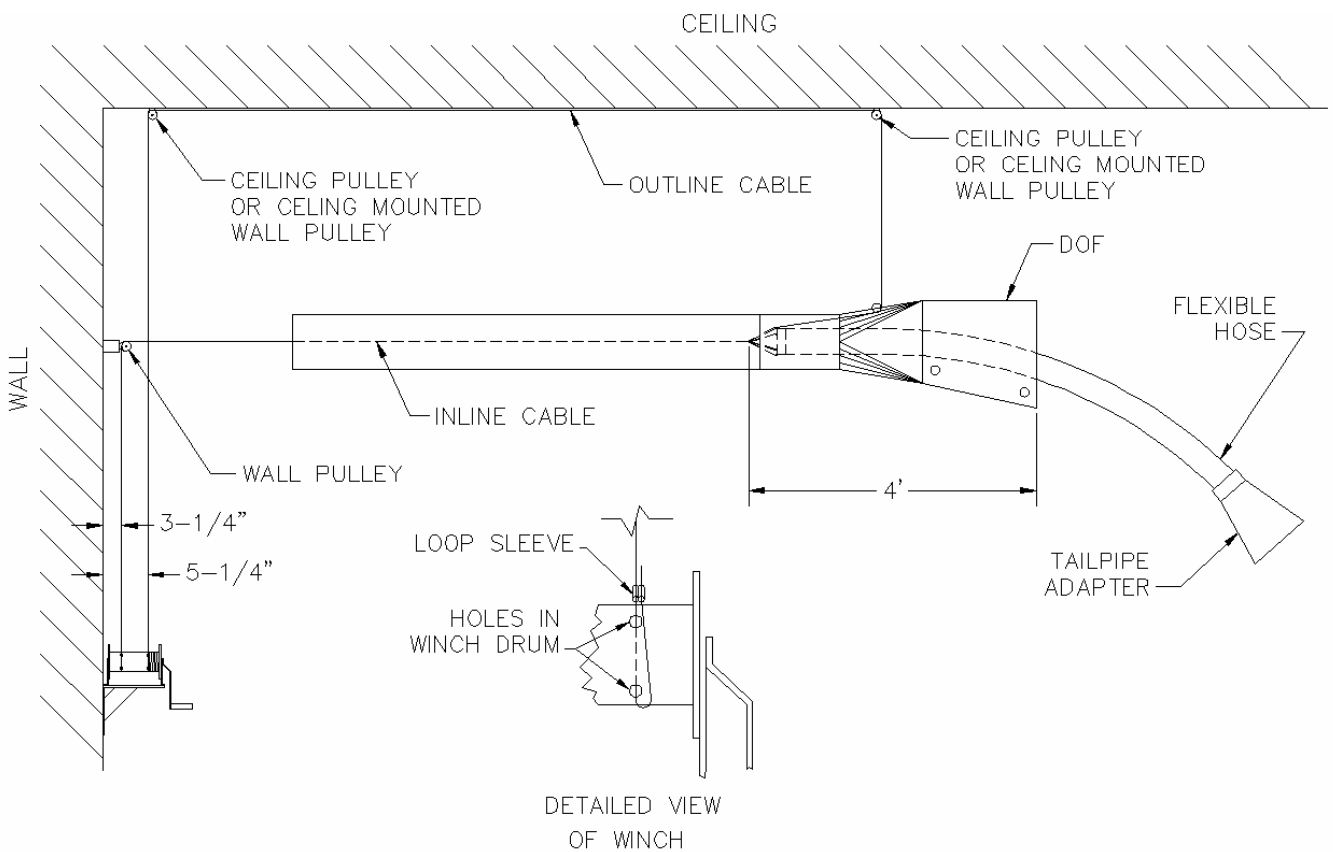
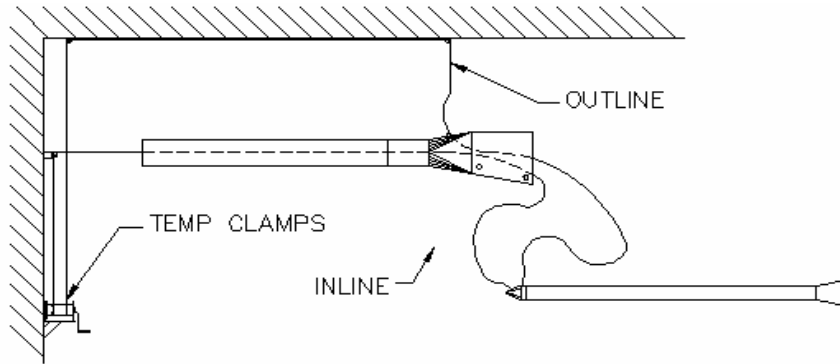

FIG2: REAR ACTUATED PULLEY LAYOUT
FIG 5A: ATTACH BOTH LINES TO HOSE GUIDE ON FLEX ASSEMBLY
5. All the pulleys must be positioned properly to prevent binding of cables. The proper pulley locations are shown in FIG 2. Wall pulleys are to be fastened to the wall or beam using screws or bolts (not provided). For ceiling pulleys place one end of S-hook through the eye on the pulley and crimp it shut to ensure the pulley is securely installed. Attach the other end of the S-hook to an eyebolt or similar device (not provided) on ceiling in the same manner.
- 1) Route the cable(s) through the duct and to the corresponding pulleys shown in FIG 2, leaving the excess hanging out of the disappearing overhead fixture (DOF). Do not permanently attach the cables to winch at this point. Temporarily clamp the cables around the winch to keep the cables from sliding from the pulleys. The system should now look like FIG5A.